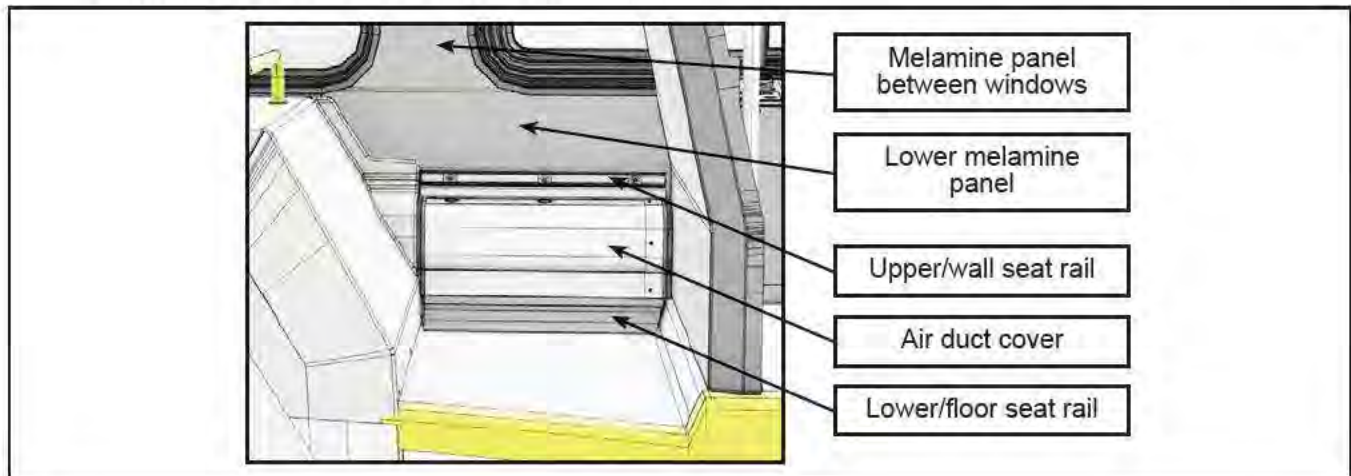

Figure 4 - Components to remove
- 1.12. Remove the upper/wall seat rail (Figure 4).
- 1.13. Remove the air duct plate (Figure 4).
- 1.14. Remove the lower/floor seat rail (Figure 4).